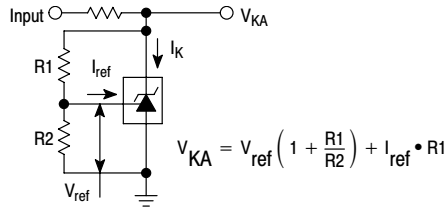

Figure 2. Test Circuit for $V_{KA} > V_{ref}$
- The dynamic impedance Z_{KA} is defined as: |Z_{KA}| = $\frac{\Delta V_{KA}}{\Delta I_K}$. When the device is programmed with two external resistors, R1 and R2, (refer to Figure 2) the total dynamic impedance of the circuit is defined as: |Z_{KA}'| ≈ |Z_{KA}| (1 + $\frac{R1}{R2}$)
6. The dynamic impedance Z_{KA} is defined as $|Z_{KA}| = \frac{\Delta V_{KA}}{\Delta I_K}$ When the device is programmed with two external resistors, R1 and R2, (refer to Figure 2) the total dynamic impedance of the circuit is defined as: $|Z_{KA}'| \approx |Z_{KA}| \left(1 + \frac{R1}{R2} \right)$